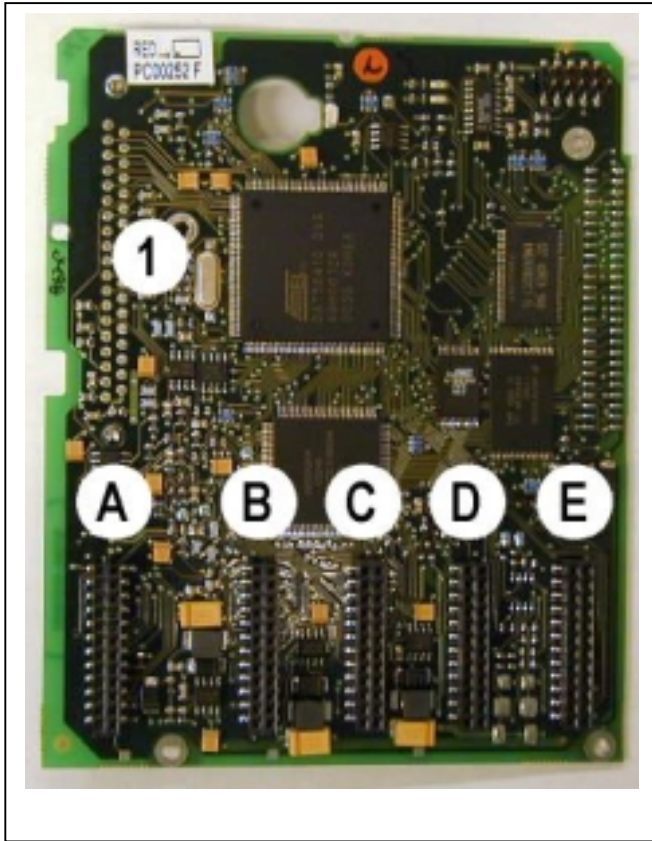
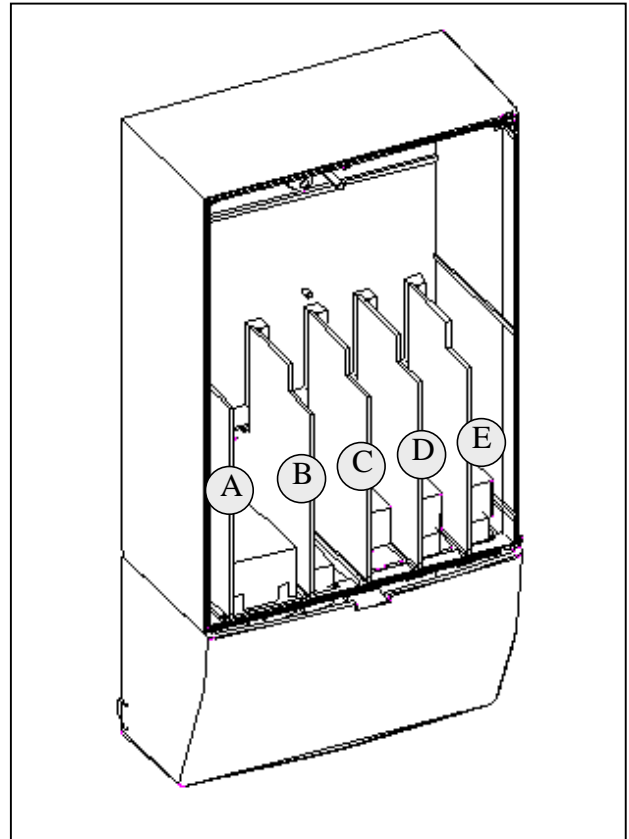

Figure 6-12. NX control board
Figure 6-13. Basic and option board connections on the control board
The control unit of the frequency converter consists roughly of the control board and additional boards (see Figure 6-12 and Figure 6-13) connected to the five *slot connectors* (A to E) of the control board. The control board is connected to the power unit through a D-connector (1).